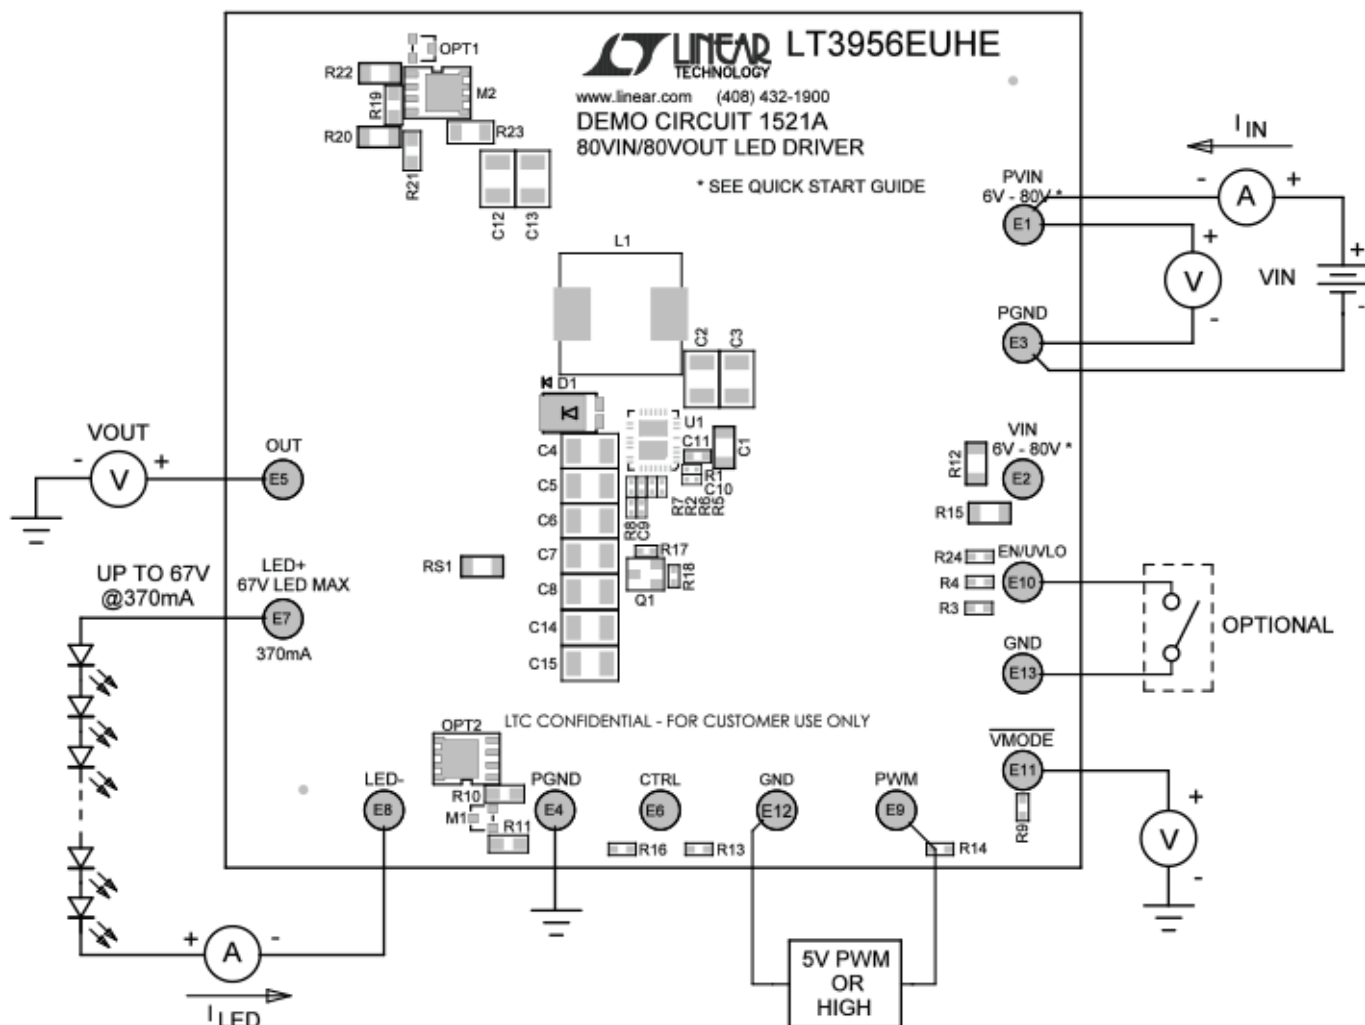

Figure 1. Proper Measurement Equipment Setup
1. Connect a string of LEDs with forward voltage less than 68V (when running at 370mA) to the LED+ and LED- terminals on the PCB as shown in Figure 1.